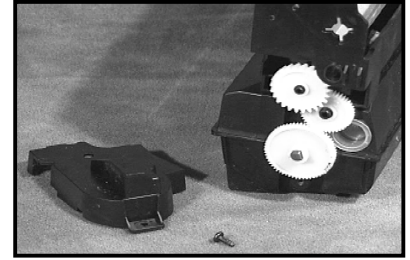

Figure 8
8. Remove the gear housing end plate, and remove the drive gears for the mag sleeve and agitator bar (fig. 8). If you are removing the large agitator gear, be careful not to break the snap post.